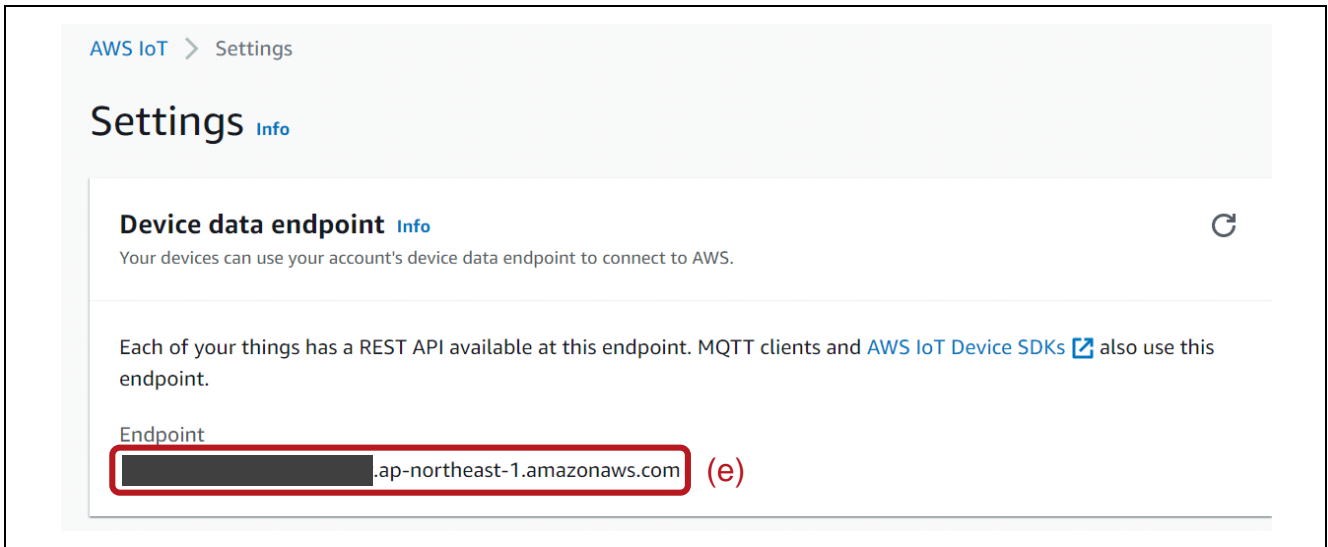

Figure 7-10 Check AWS Endpoint
- Select [Settings]. Make a note of the Endpoint. (Figure 7-10(e))
#define clientcredentialMQTT\_BROKER\_ENDPOINT "Figure 7-10 (e) The Endpoint"